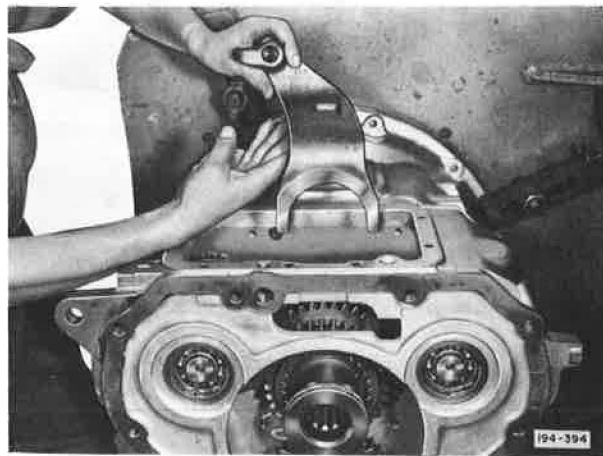

Figure 5-184. Installing Compound Shifter Fork
29. Install and engage compound shifter fork with groove provided in main driving pinion sliding clutch. See Figure 5-184.